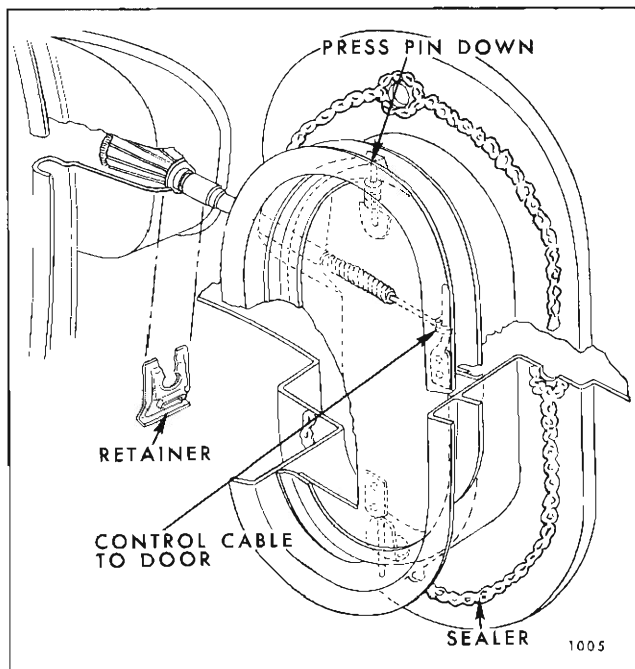

Fig. 5C12—Shroud Side Duct and Control
4. Remove trim panel to hinge pillar attaching screw (Fig. 5C13) and remove assembly.
To install, apply a generous bead of medium-bodied sealer to flange of duct assembly (Fig. 5C12) and reverse removal procedure.